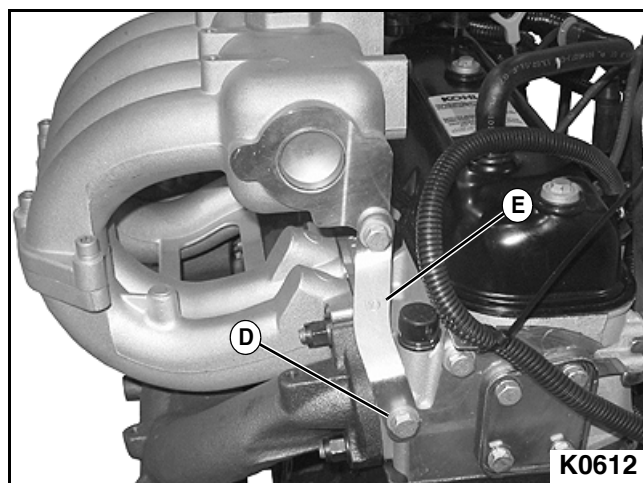

Figure 3-57
5. Remove bolt, flat washer, and lock washer (D) from intake manifold-to-cylinder head support bracket (E). **See Figure 3-57.**